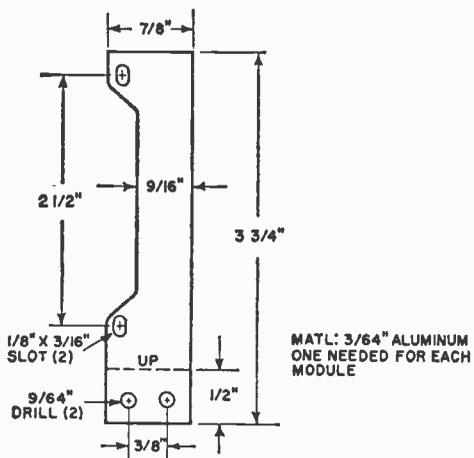
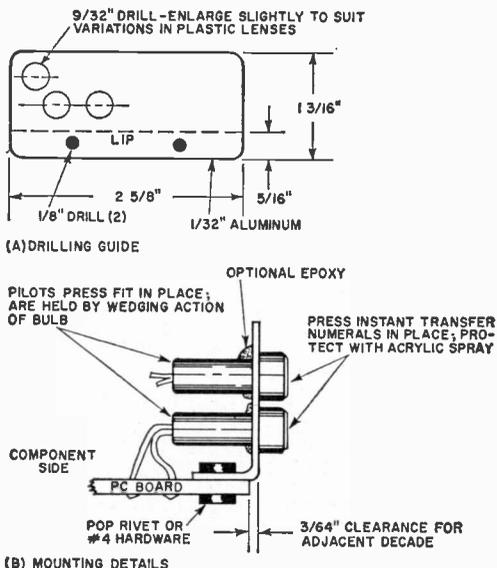

Fig. 11. If necessary, to avoid interference with components or wiring, deepen the notched cutout.
Fig. 12. Arrange lamp mounting holes in two closely spaced, staggered columns to obtain small size.
- Misc.—PC board, 3" x 3- $\frac{1}{4}$ ", PC terminals or eyelets (7) (optional), #24 jumpers (2), solder, lamp bracket (see Fig. 12), mounting bracket and hardware (see Fig. 11).
as those shown in Fig. 11 can be used. The photos show how these brackets are used for support.
A three-hole bracket is required for the indicator lamps of the gate module. This can be fabricated as shown in Fig. 12. (One of the brackets supplied with the DCU kit can be used as a guide.) Use orange plastic covers for the 0 and 1 bulb, and a red one for the overrange indicator.
Misc.—Vinyl clad aluminum case and support assembly, $\frac{3}{4}$ " knobs (2), 1- $\frac{1}{2}$ " knob (1), backup plate for controls, dialplate (optional), mounting hardware, brackets for M2, M3, (see Fig. 11), wire, solder, 1300- to 1500-ohm precision resistor, green jewels (2), etc.